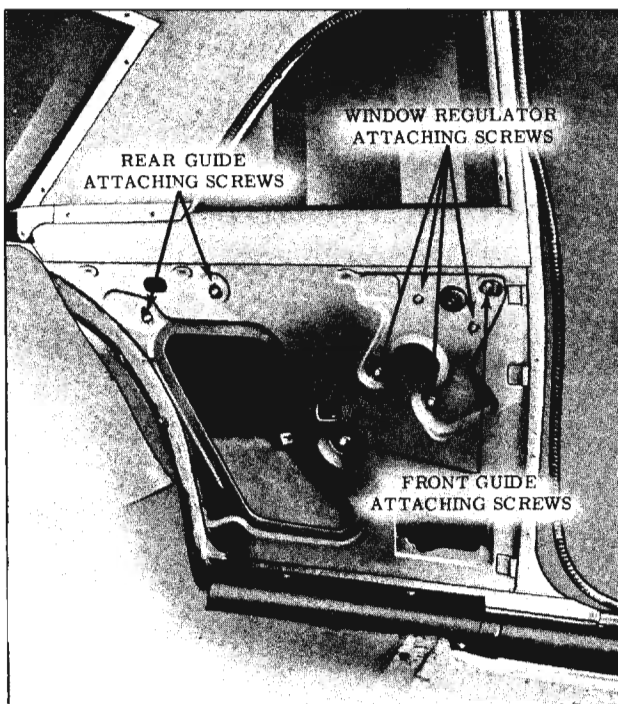

Fig. 16-266 Rear Quarter Hardware (17 &amp; 27 Styles)
section of door sill plate. Disengage pinchweld finishing strip from beneath door sill plate and pinchweld flange to a point above belt line (Fig. 16-266)
2. With window in up position, remove rear quarter window rear guide attaching screws (Fig. 16-266) and remove rear guide.
To adjust rear quarter window, remove rear quarter trim assembly. Loosen both front and rear guide attaching screws (Fig. 16-266). Operate window to full up position, making sure window is all the way forward and up into the run channels. Install wrench on front guide upper attaching screw and tighten screw while forcing screw and guide as far forward as possible. Repeat procedure on lower attaching screw. Install wrench to forward attaching screw of rear guide and tighten screw while forcing screw and guide as far upward as possible. Lower window to full down position and tighten rear attaching screw.
2. Loosen rear quarter window front guide upper attaching bolt (Fig. 16-266).
3. Remove window regulator attaching screws (Fig. 16-266) and remove regulator through access hole.
2. Remove rear quarter window front guide attaching bolts (Fig. 16-266). Disengage guide from roller on window lower sash channel and remove guide through access hole.
2. Remove rear quarter window rear guide attaching bolts. (Fig. 16-266) Disengage guide from roller on window lower sash channel cam and remove guide through access hole.